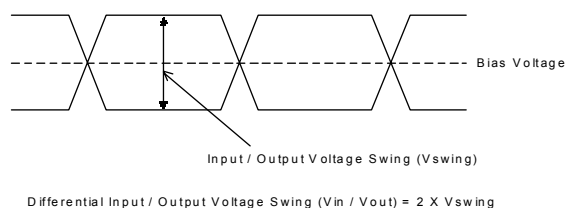

Figure 7. Definition of Differential Input / Output Voltage Swing
- Refer to Figure 7.
Refer to Figure7. about definition of differential sw ing.